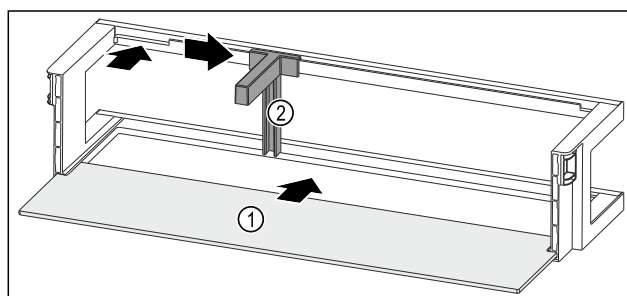

Fig. 136 Door rack with shelf
- Push the shelf *Fig. 136 (1)* into the side recesses.
- Insert the bottle holder *Fig. 136 (2)* in the recess.
- Push the bottle holder *Fig. 136 (2)* to the desired position to the side.